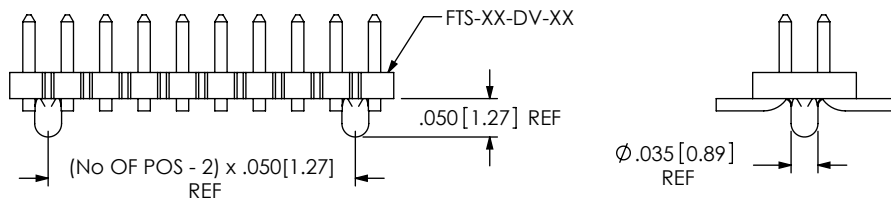

FIG 9
- A: MOLDED ALIGNMENT PIN (USE FTS-XX-DV-XX) (ONLY AVAILABLE IN -DV OPTION, 5 POS MINIMUM) (SEE FIG 9, SHT 3) (NOT AVAILABLE WITH -S OPTION; ORDER -SA FOR ALIGNMENT PIN AND SHROUD)